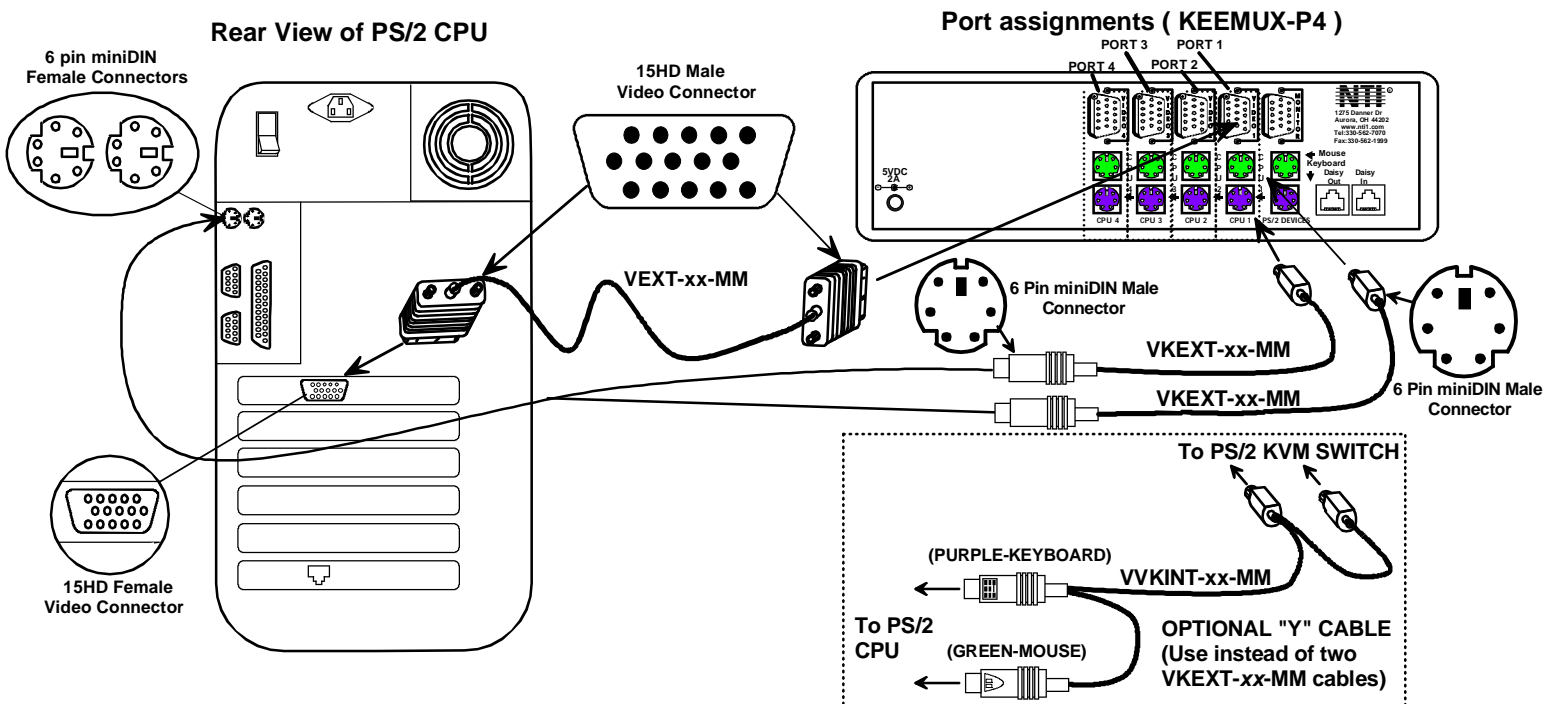

Figure 4- Connect a CPU to the KEEMUX
- Connect each CPU to the keyboard, monitor and mouse ports using VEXT-xx-MM for the monitor and VKEXT-xx-MM (2) for the mouse and keyboard— REQUIRED (not supplied). See Fig. 4.